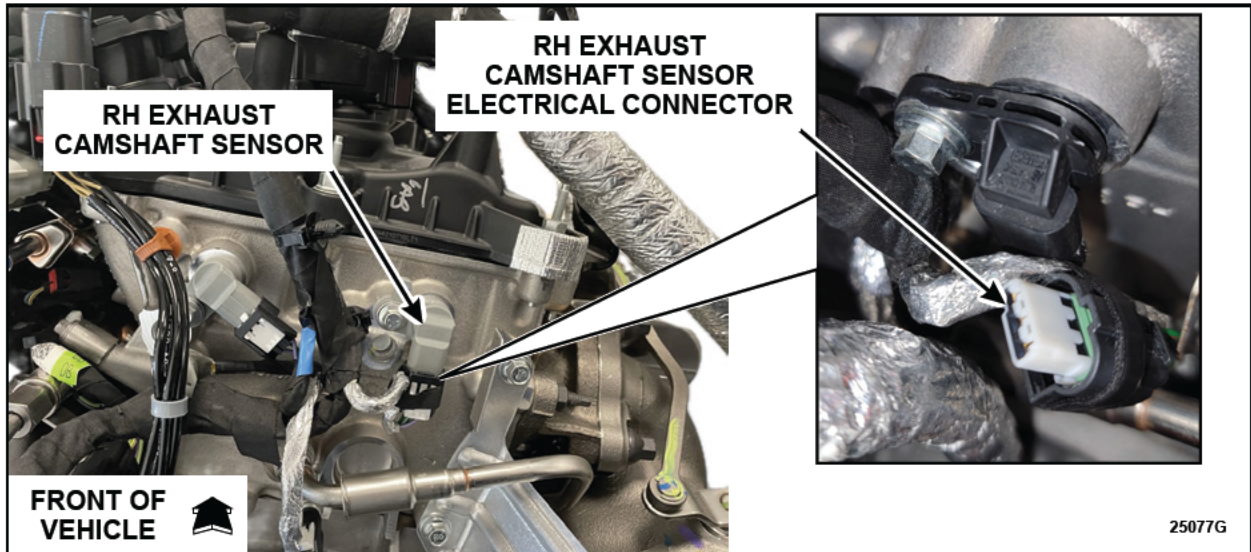

FIGURE 9
1. Disconnect the RH exhaust camshaft sensor electrical connector. See Figure 9.